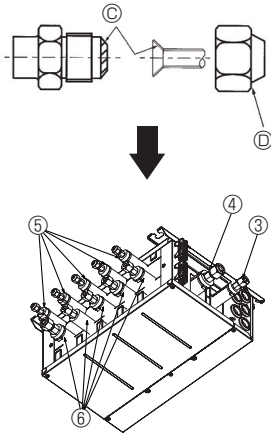

Fig. 7-2
- Ⓒ Apply refrigeration oil to the entire (Fig. 7-2) surface of the flared seat.